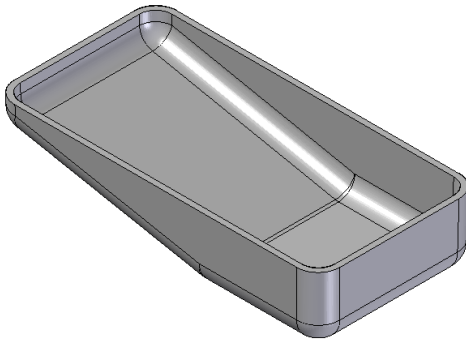

Figure 8-76 Model after creating the thin wall feature
- Add a thin wall feature to the model, refer to Figure 8-76.
4. Choose the **Preview** button and then choose **Finish** to create a thin wall feature. The model, after creating the thin wall feature, is shown in Figure 8-76.